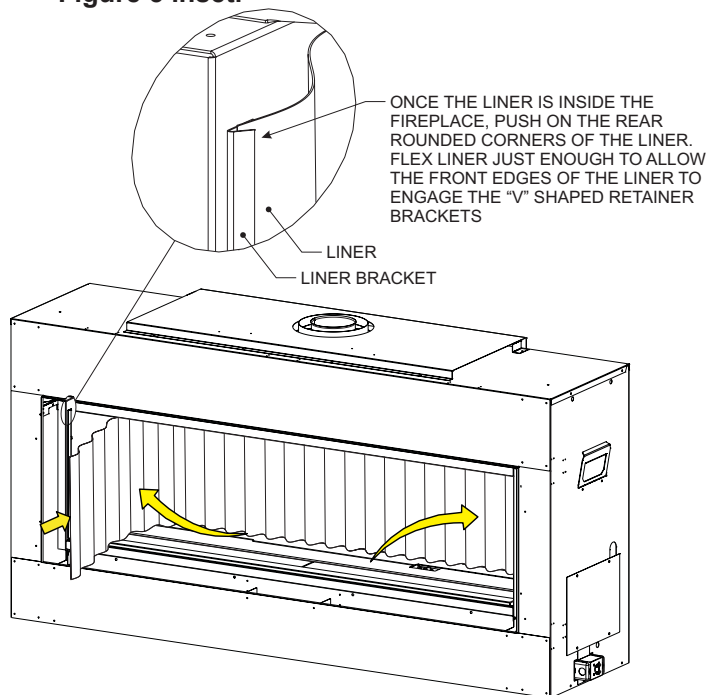

Figure 5
10. Once the right end of the liner is locked into the right side bracket, continue to work in the left side of the liner until the complete liner is setting inside the fireplace. **See Figure 5.**
11. To complete the liner installation, push the left side of the liner towards the left rear corner of the fireplace. Push inward just enough to engage the left end of the liner into the left side liner bracket. **See Figure 5.** The liner edges are held in place by the side brackets. The forward pressure of the liner keeps the liner in place, due to the radius rear corners on the liner. **See Figure 5 inset.**